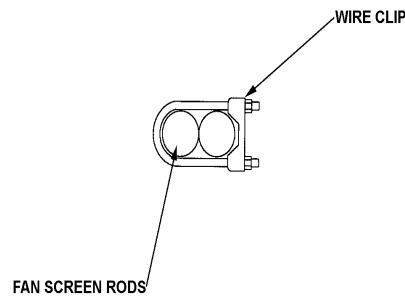
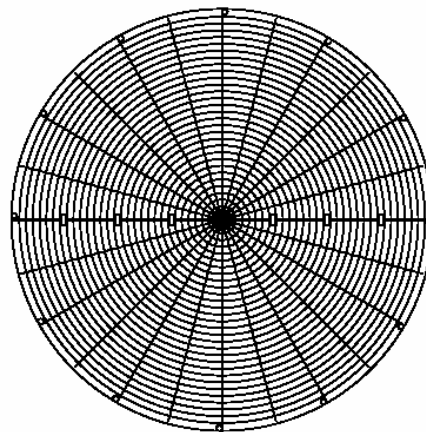

Figure 10 - Wire Clip Arrangement
Figure 11- Wire Clip Spacing
3. Join the two screen halves with wire clips (Figure 10).
There should be 3 wire clips on each side of the fan screen. Space the wire clips evenly across the radius of the fan screen as shown in Figure 11.
3. Join the two screen halves with wire clips (See Figure 10). There should be four clips on either side of the fan screen. Space them evenly as shown in Figure 11.